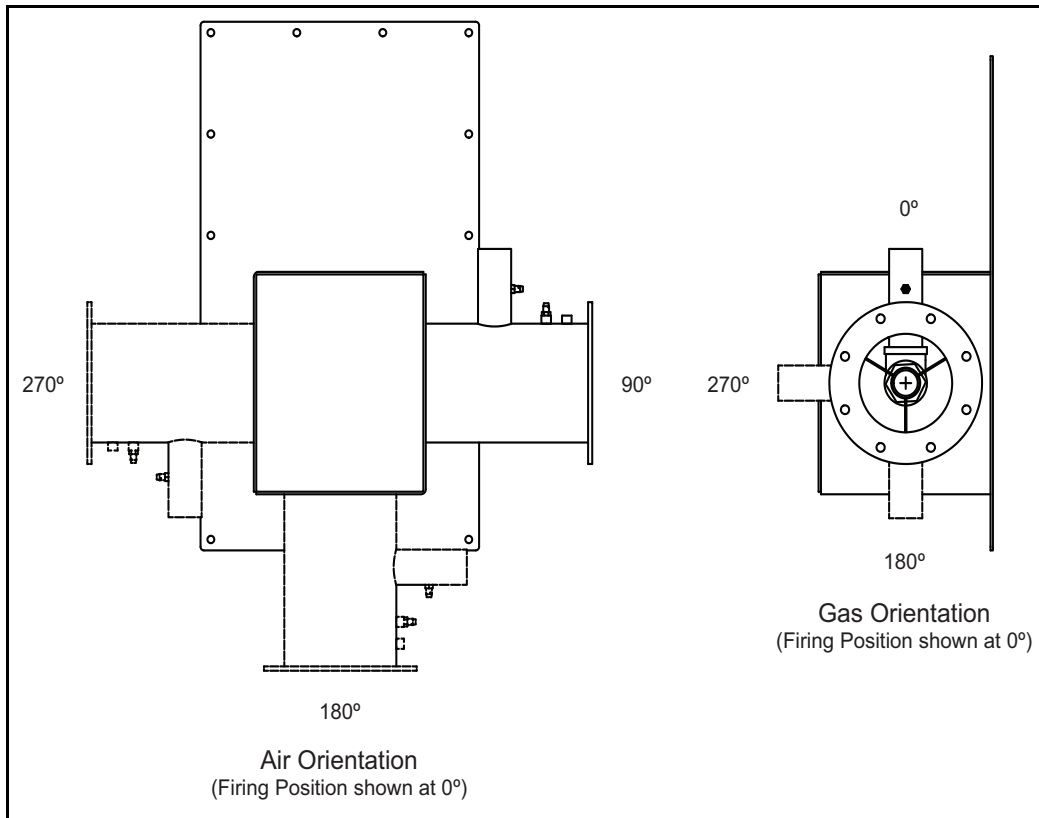

Figure 3.1 Straight ULE Air and Gas Inlet Orientations
- **Air and Gas Inlet Orientation:** The burner can be provided with air and gas inlet positions as shown in Figures 3.1 and 3.2 on page 8.